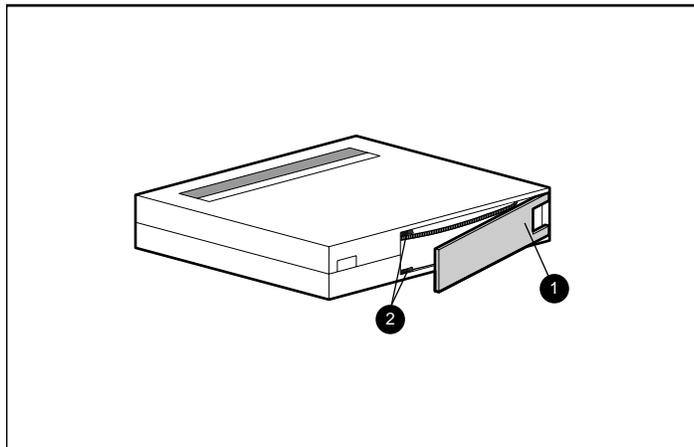

Figure 3-4. Checking the tape leader
- If it doesn't rattle, check the tape leader ❷ inside the cartridge. To do this, open the door on the rear of the cartridge by releasing the door lock ❶. The tape leader should be in the position shown in Figure 3-4.